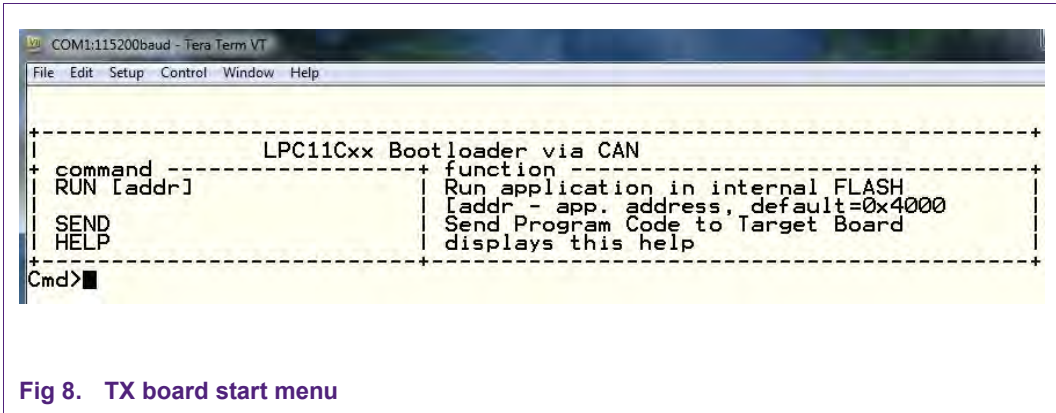

Fig 8. TX board start menu
- 3) Power on or reset TX board. TX board will send a menu through serial port which will be displayed on the serial terminal, see Fig 8.